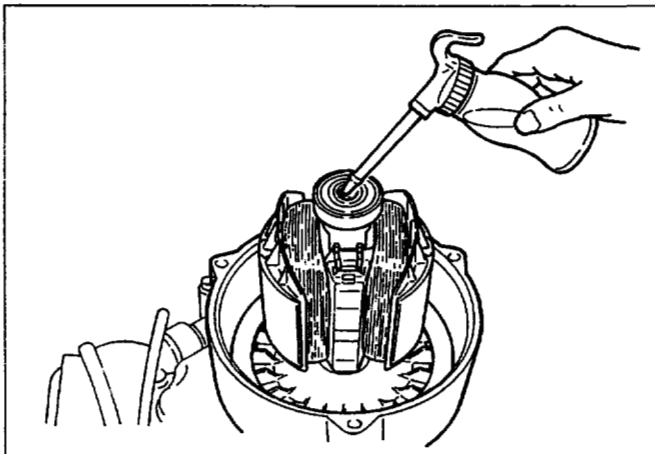
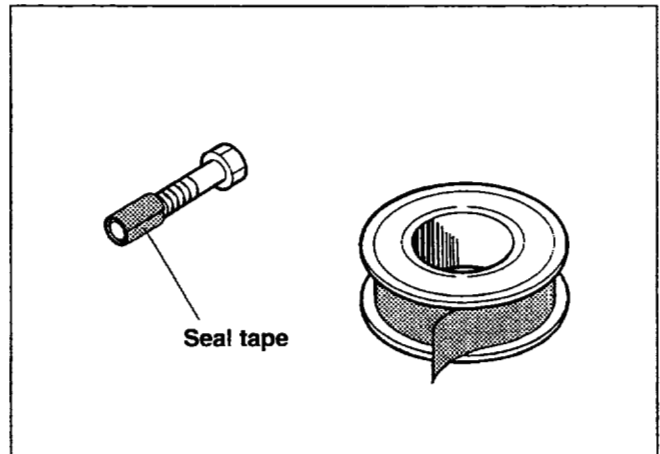

Fig. 10-22
Fig. 10-23
<p>(3) Use a bolt and oil as a tool for pulling out rotor in the following procedures :</p> <ol style="list-style-type: none"> 1. Pour engine oil into the center hole of rotor shaft. Fill with oil to the shaft end. (See Fig. 10-22.) 2. Prepare a bolt with the following thread size : M8 × P 1.25 3. Apply a few turns of seal tape around the tip of the bolt. (See Fig. 10-23.)